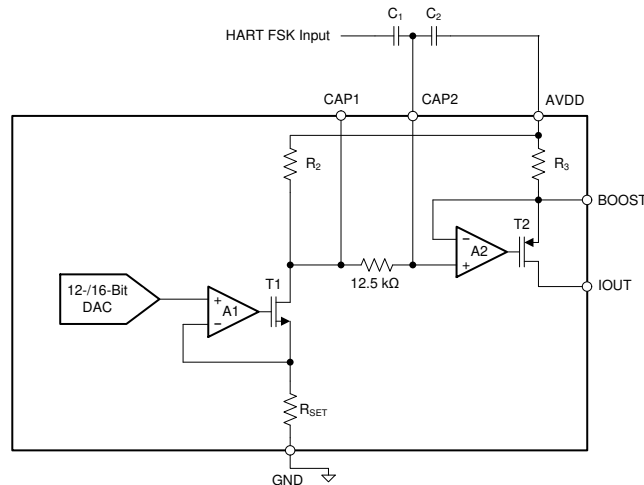

图 9-3. Implementing HART on IOUT Using the CAP2 Pin
The first method of implementing HART is to couple the signal through the CAP2 pin, as conceptualized in 图 9-3. Note that this pin is only available in the 40-pin VQFN package.
In 图 9-3, R_3 is nominally 40 Ω , and R_2 is dependent on the current output range (set by the RANGE bits) as described below:
1. As is seen in 图 9-3, CAP2 is directly connected to the input of the final IOUT amplifier. Any noise or unwanted ac signal routed near the CAP1 and/or CAP2 pins could capacitively couple onto internal nodes and affect IOUT. Therefore, with the QFN package, it is important to avoid routing any digital or HART signal trace over the CAP1 and CAP2 traces.